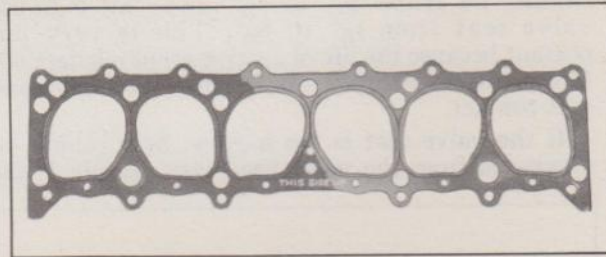

Fig. 54—Cylinder Head Gasket
**CAUTION—The cylinder head gasket must be installed with the side marked "This side up" on top, Fig. 54.**